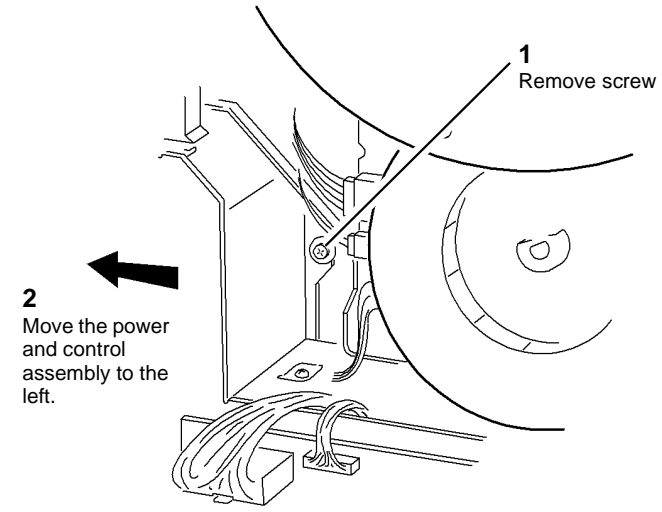

Figure 4 Power and control assembly
7. **Figure 4.** Remove the securing screw from the power and control assembly.